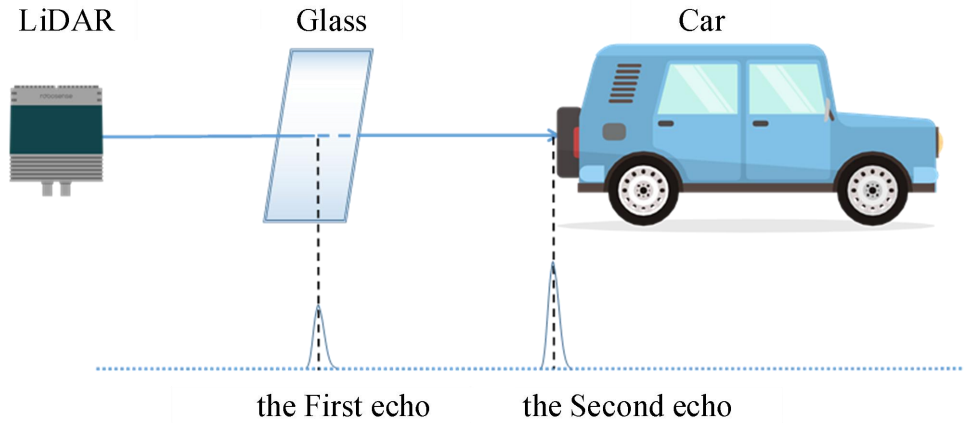

Figure 3 Dual Return Detection
- 2) In Dual Return mode, when the laser hits multiple targets, and the distance between the targets is greater than 1 meter, the LiDAR can detect two echoes, as shown in Figure 3 .